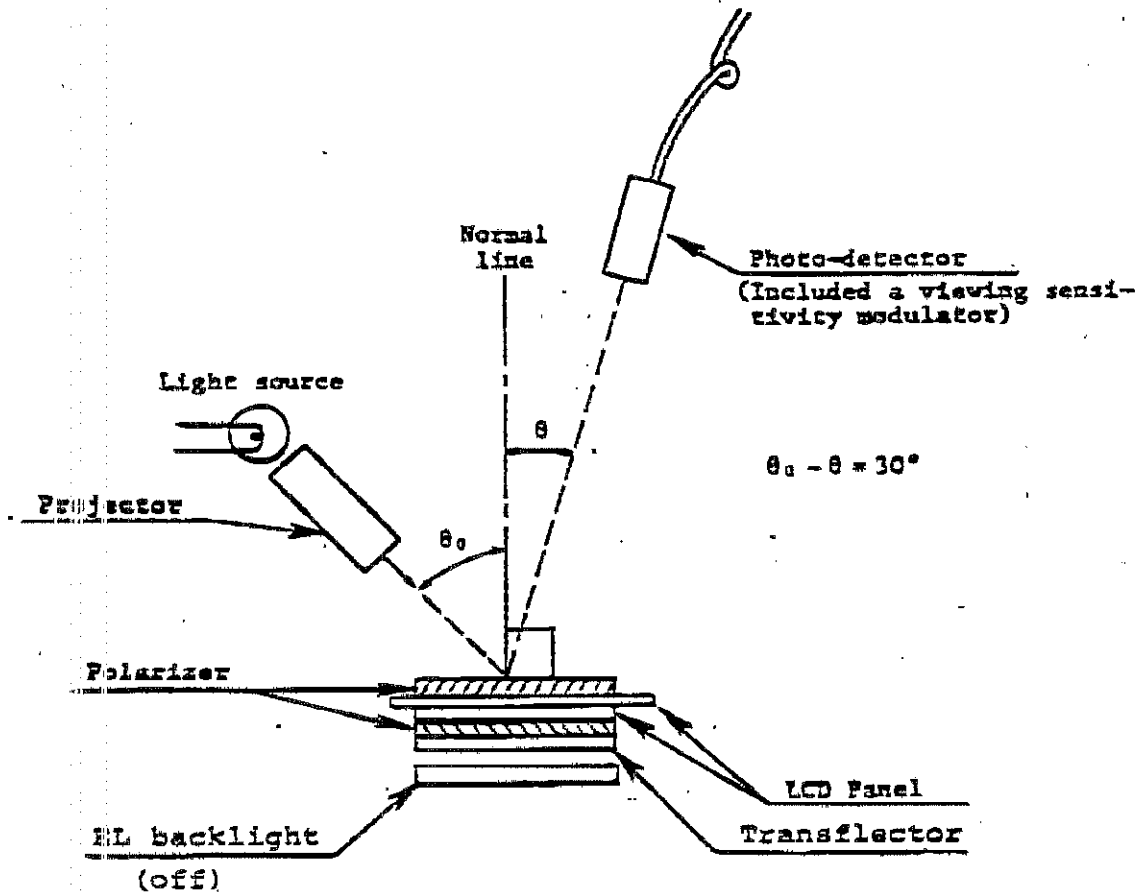

Fig. 3 Optical Characteristics Test Method
Contrast ratio is calculated by using the following formula when the waveform voltage (Fig. 4) is applied in the optical characteristics test method (Fig. 3).
- Note 3) The response characteristics of photo-detector output are measured as shown in Fig. 4, assuming that input signals are applied so as to select and deselect the dots to be measured, in the optical characteristics test method shown in Fig. 3.